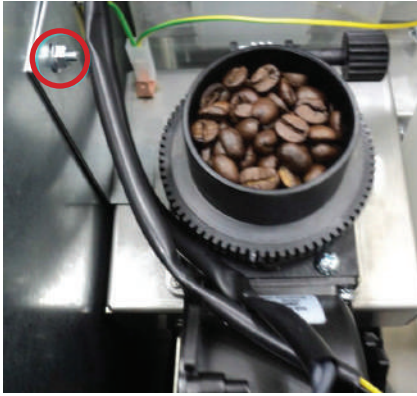

Fig.4.3
3. Before putting to use please remove the transportation bracket, which holds the coffee grinder unit, by loosening the not (see fig.4.3)